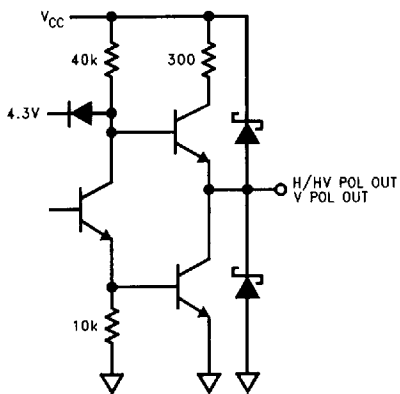

FIGURE 9
**Pin 13 - H/HV POL OUT:** A low logic level indicates active-high H/HV sync to pin 12, a high level indicates active-low. Pin 13 stays low in the absence of H/HV sync. See *Figure 9* for the output schematic.
**Pin 19 - V POL OUT:** A low logic level indicates active-high V sync to pin 8, a high level indicates active-low. Pin 19 stays low in the absence of V sync. See *Figure 9* for the output schematic.